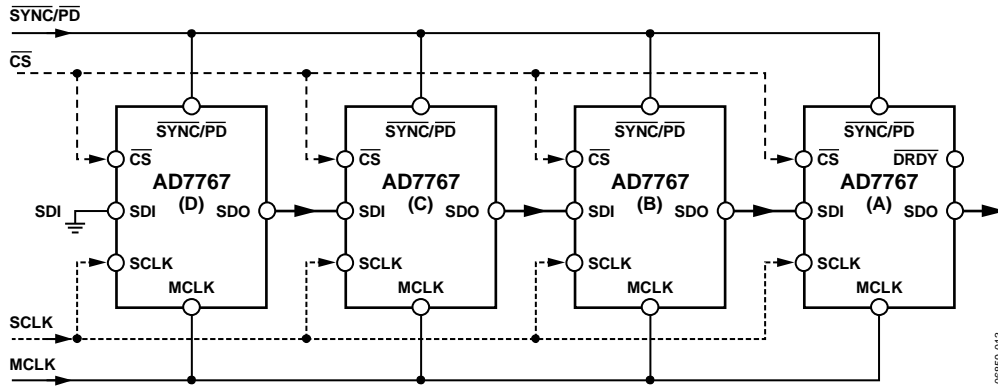
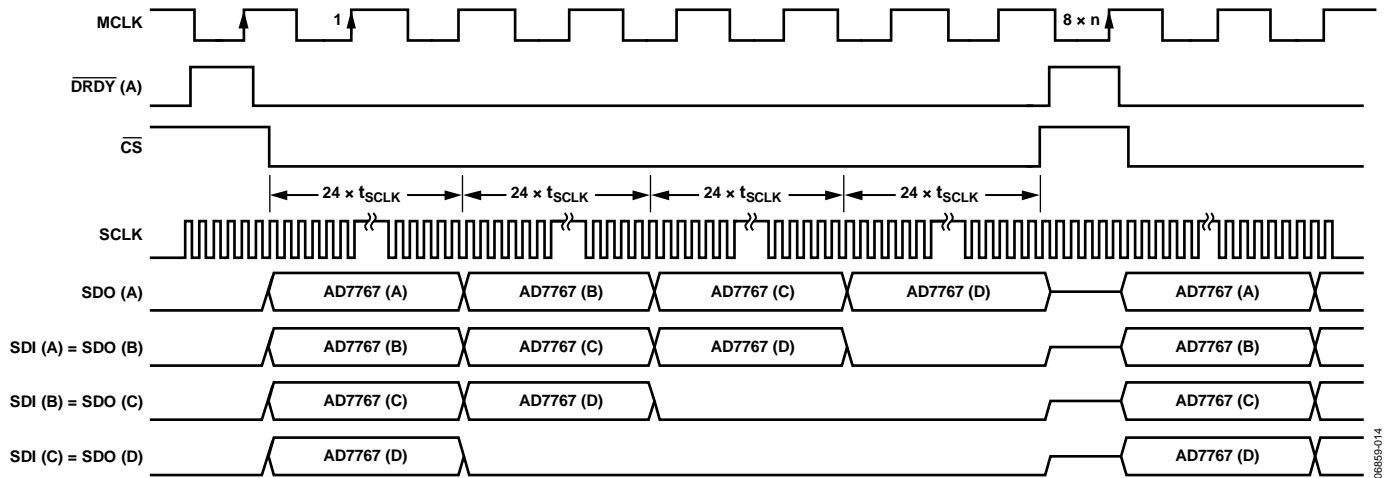
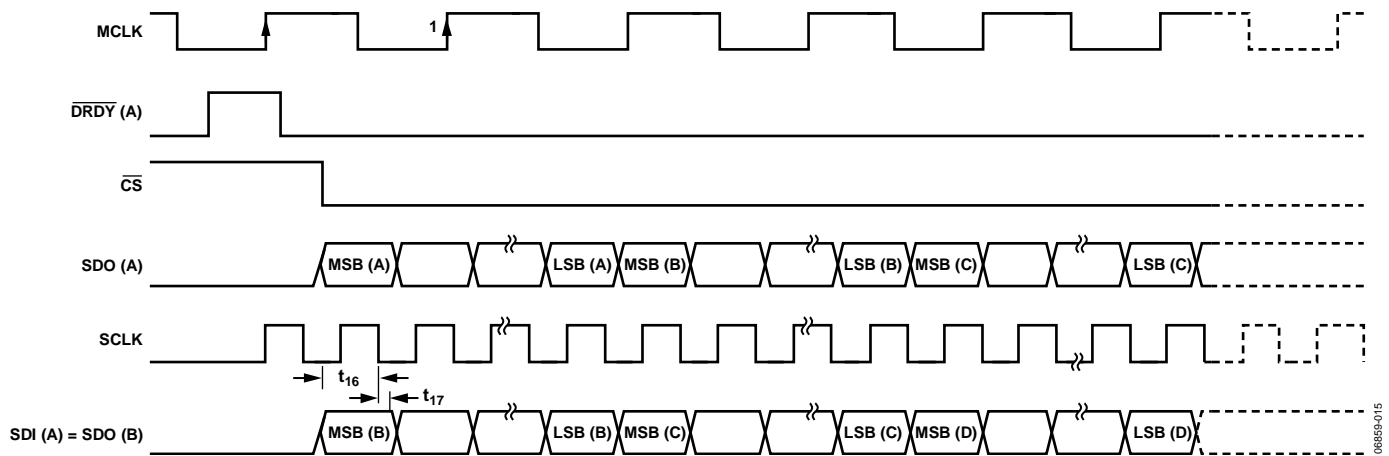

Figure 36. Daisy-Chain Configuration with Four AD7767 Devices
Figure 37. Daisy-Chain Timing Diagram ( $n = 1$  for AD7767,  $n = 2$  for AD7767-1,  $n = 4$  for AD7767-2) When Driving the AD7767
Figure 38. Daisy-Chain SDI Setup and Hold Timing
The block diagram in Figure 36 shows how devices must be connected to achieve daisy-chain functionality. The scheme shown operates by passing the output data of the SDO pin of an AD7767 device to the SDI input of the next AD7767 device in the chain. The data then continues through the chain until it is clocked onto the SDO pin of the first device in the chain.
An example of a daisy chain of four AD7767 devices is shown in Figure 36 and Figure 37. In the case illustrated in Figure 36, the output of the AD7767 labeled A is the output of the full daisy chain. The last device in the chain (the AD7767 labeled D) has its serial data input (SDI) pin connected to ground. All the devices in the chain must use common MCLK, SCLK,  $\overline{\text{CS}}$ , and  $\overline{\text{SYNC/PD}}$  signals.
After applying a  $\overline{\text{SYNC/PD}}$  pulse to all the devices, there is a delay (as listed in Table 7) before valid conversion data appears at the output of the chain of devices. As shown in Figure 37, the first conversion result is output from the AD7767 device labeled A. This 24-bit conversion result is followed by the conversion results from the devices labeled B, C, and D, respectively, with all conversion results output in an MSB-first sequence. The stream of conversion results is clocked through each device in the chain and is eventually clocked onto the SDO pin of the AD7767 device labeled A. The conversion results of all the devices in the chain must be clocked onto the SDO pin of the final device in the chain while its  $\overline{\text{DRDY}}$  signal is active low.
This is illustrated in the examples shown (Figure 37 and Figure 38), where the conversion results from the devices labeled A, B, C, and D are clocked onto SDO (A) during the time between the falling edge of  $\overline{\text{DRDY}}$  (A) and the rising edge of  $\overline{\text{DRDY}}$  (A).
As shown in Figure 37, the number of SCLK falling edges that occur during the period when  $\overline{\text{DRDY}}$  (A) is active low must match the number of devices in the chain multiplied by 24 (the number of bits that must be clocked through onto SDO (A) for each device).